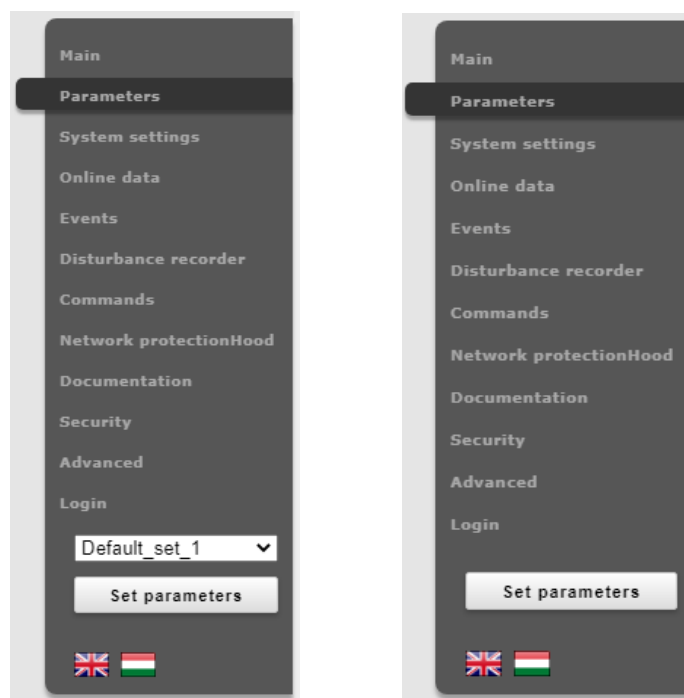

Figure 4-7 Main menu view with and without multiple parameter sets
*Second column* displays the current values of the selected parameter set stored in the device. The parameter set can be chosen from the combo-box of the main menu (see Figure 4-7). Changing the parameter set here doesn't mean activating it, only loading to the fields. You can find more information on activation in this chapter later.
Modified parameter values can be written into the selected parameter set by clicking “Set parameters” button on the main menu panel. In case of a device with only one parameter set there is no parameter set selector combo-box, as it can be seen on the right side of Figure 4-7.
**NOTE:** Activating a parameter set doesn't load the values to the edit fields above. Parameter set values can be loaded into the editable fields by using the combo-box placed on the left side of the main menu panel (see Figure 4-7) or by clicking on the Load to editor button.